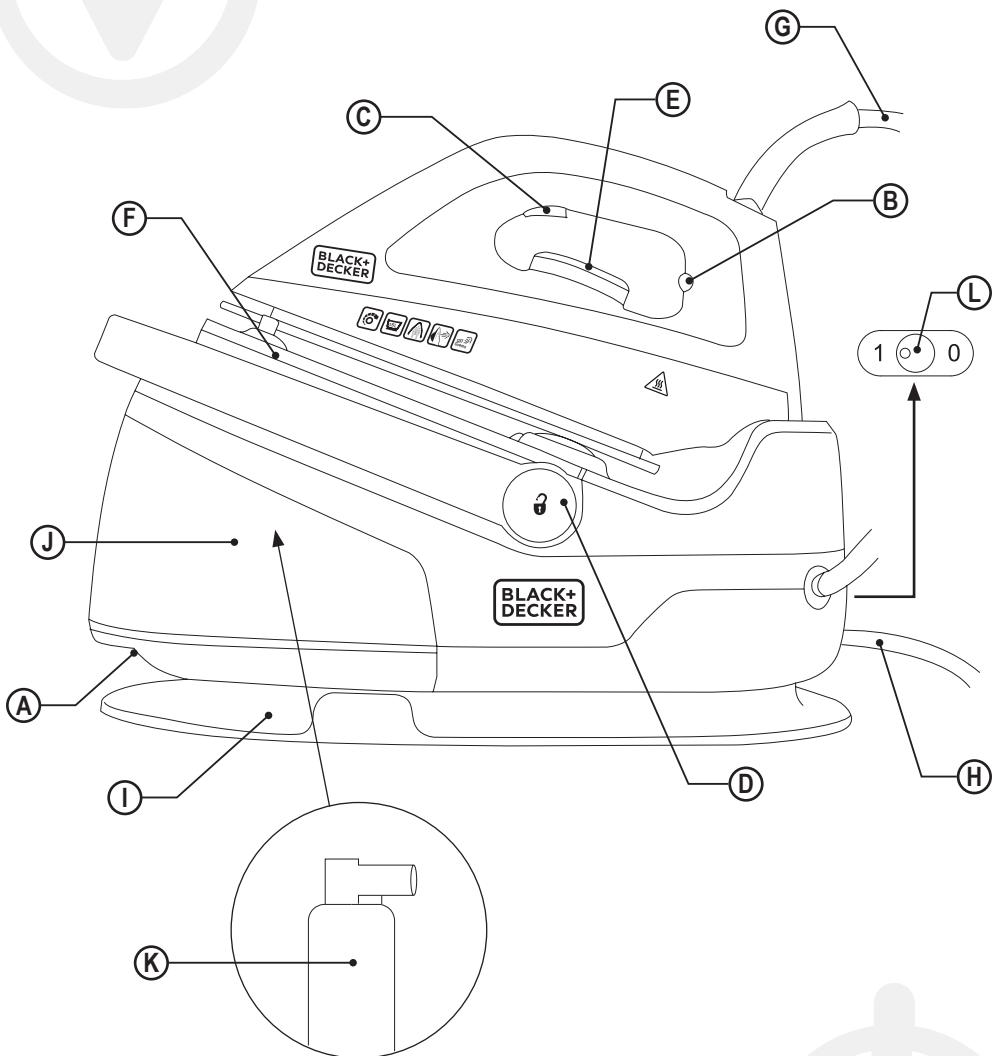

Fig.1
- ◆ **IMPORTANT:** Check that the water tank is coupled correctly to the anti-scale filter on the inside before switching on the appliance (Fig. 1)